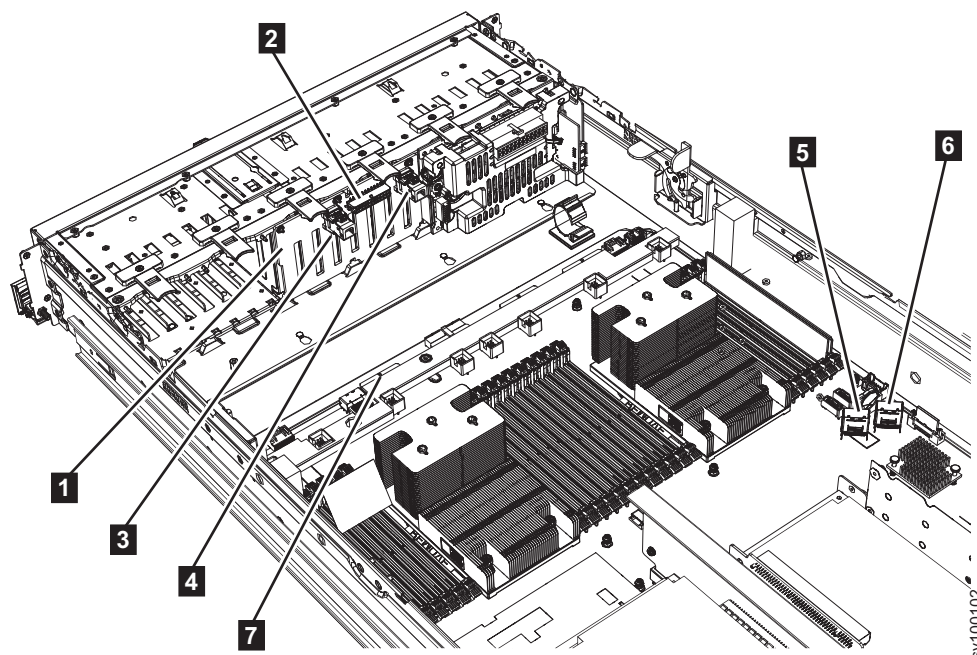

Figure 201. The 2145-SV1 SATA drive backplane and connectors
14. Disconnect all cables from the main board. Label each cable, and then make a list of each cable as you disconnect it, so you can use it as a checklist when you install the new main board. Figure 201 shows the location of the SATA drive backplane and connectors.